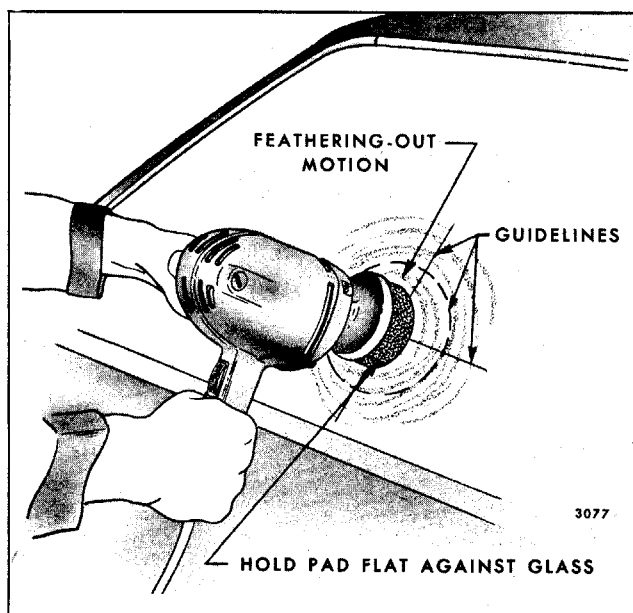

Fig. 11-1-Minor Glass Scratch Removal
3. Draw circle around scratches on opposite side of glass with marking crayon or equivalent. Draw other lines directly behind scratches to serve as guides in locating scratch during polishing (Fig. 11-1).
6. Using moderate, but steady, pressure, hold pad flat against scratched area of glass, and with a feathering-out motion, polish affected area as shown in Figure 11-1.
7. Cover sufficient area around scratch with a feathering-out motion as shown in Figure 11-1, to eliminate any possibility of a bull's-eye.